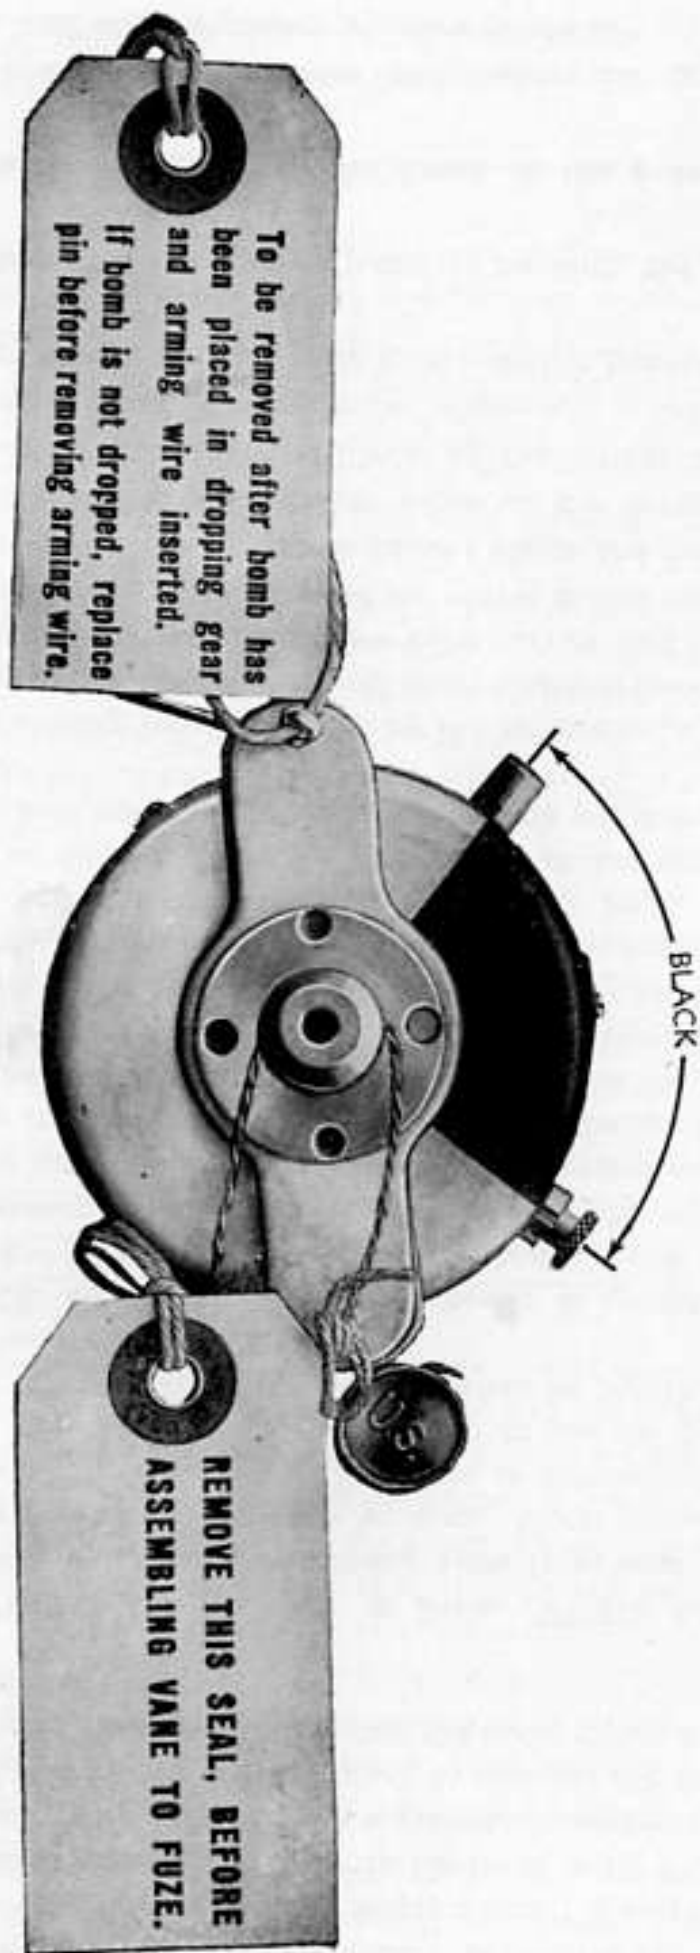

Figure 63. FUZE, bomb, M140.
47. **FUZE, BOMB, M140 (NOSE).** FUZE, bomb, M140 (nose) (fig. 63), is a selective SQ—0.025-second delay impact fuze. Except for the delay time and the marking, this fuze is identical with FUZE, bomb, AN-M103 (nose). (See fig. 47.) A segment of one-fourth of the head (vane cup) of this fuze is painted black to indicate the delay. The marking is the same as that used to indicate the same delay, 0.025 second, on the M14 primer detonator.